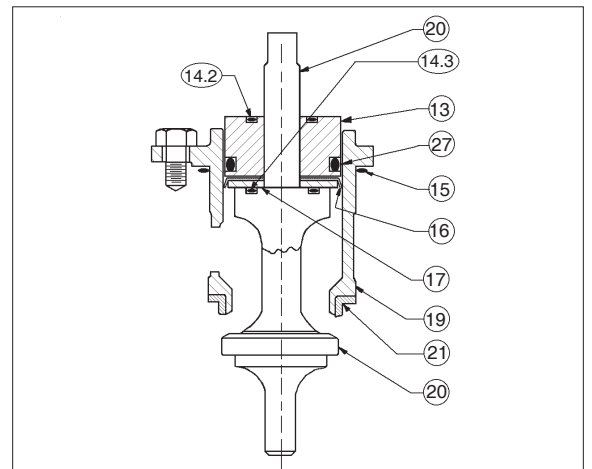

Figure 2: Assembled ITA, Composition Diaphragm Construction
1. Units with Composition Diaphragm(s) (See Figure 2):
- a. Pull the valve plug (20) downwards and out of the piston-guide bearing (13) and out of the cage's (19) bottom, while holding the cage (19).
- b. Remove the piston-guide bearing (13) from the upper end of the cage (19).